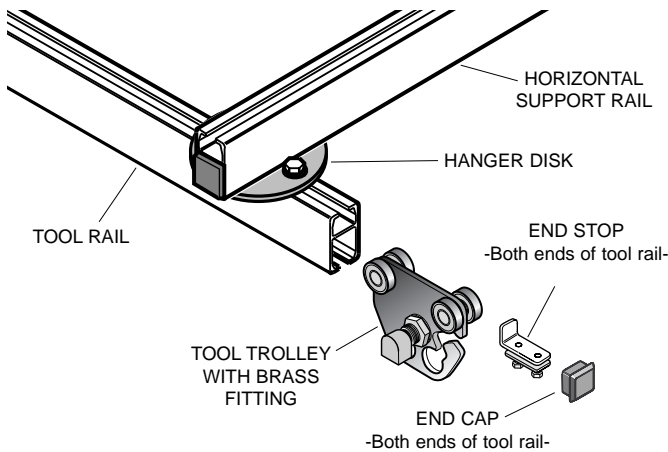

Figure 10.
- Slide End Stop minimum of 2" into one end of trolley and tighten bolts to secure. Roll tool trolley into opposite end of tool rail. Install remaining End Stop (Fig. 10).